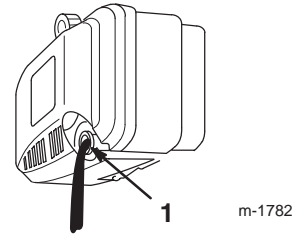

Figure 12
4. Tip the lawn mower onto its **left** side, allowing the oil to drain into the drain pan (Fig. 12).